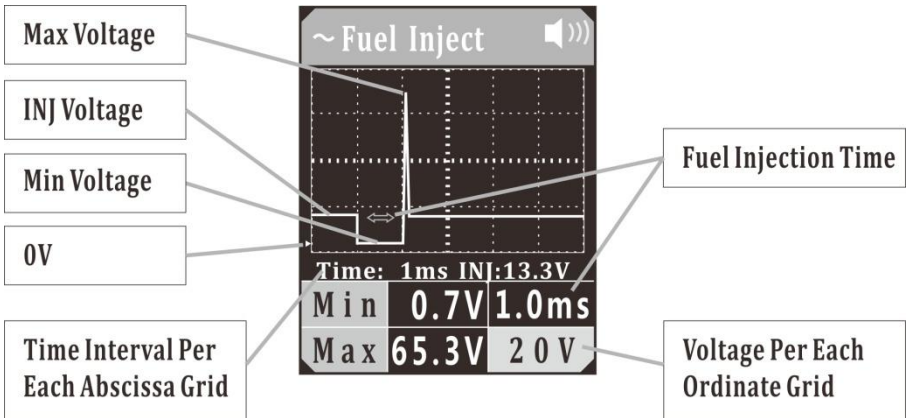

Figure 7
- d) Fuel Injector Power Supply Voltage (INJ voltage), as shown in (Figure 7);
- (Figure 7) "time: 1ms" is the time interval indicated by each grid in the waveform, which will vary with the sampling frequency.
- The green triangle mark indicates the position of 0V in the ordinate, as shown in (Figure 7).
- In this mode, if it fails to detect a valid injection pulse, a bar symbol will display instead, as shown in (Figure 7).